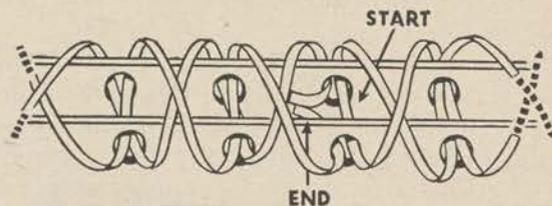

Figure 41.
c. If the stitching is continuous, it is started without the first straight stitch (fig. 41). The lace is passed through the first pair of holes and the diagonal lacing is continued with both ends around the